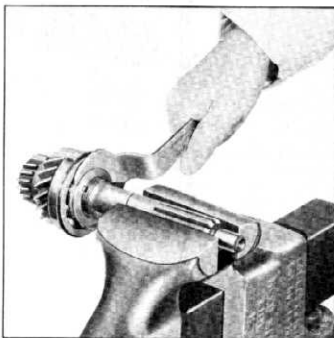

Fig. 11—Removing Bearing Retainer Nut and Oil Slinger
1. Place the clutch gear in a vise and remove the bearing retainer nut using the special wrench J-933 (fig. 11). The retaining nut is